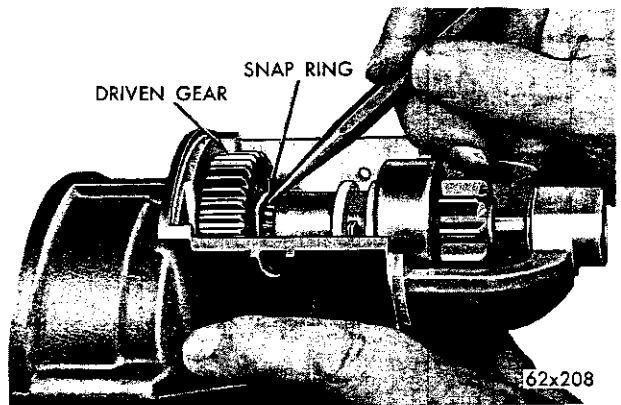

Fig. 29—Removing Driven Gear Snap Ring
- (21) Release the snap ring that positions the driven gear on the pinion shaft (Fig. 29).
(6) Install the driven gear snap ring (Fig. 29).